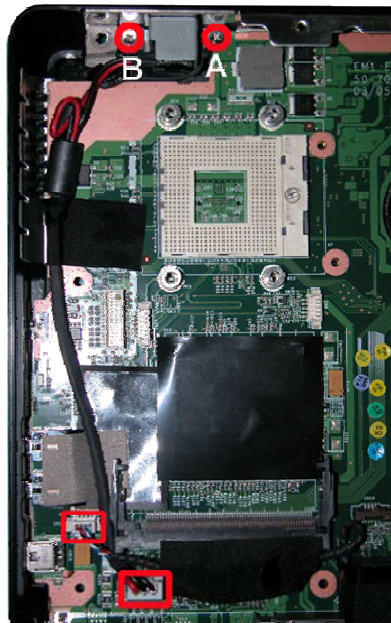

Fig. 32 Connectors on Main Board
3. Disconnect Speaker and AC socket connectors from the Main board as shown in Fig. 32